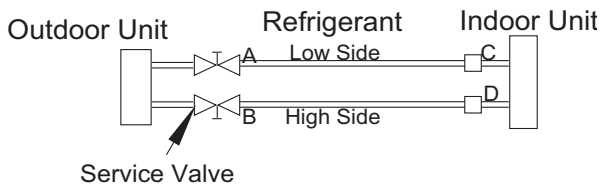

Fig. 7 – Service Valve
1. Completely tighten all flare nuts and connect manifold gage charge hose to a charge port of the low side service valve. (See Fig. 7.)